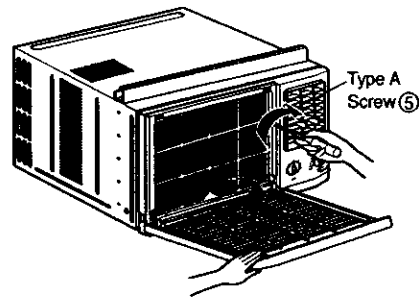

Figure 114
- Open the filter door. (See Figure 114)
- Install the TYPE A screw ⑤ through the front grille. (See Figure 114)